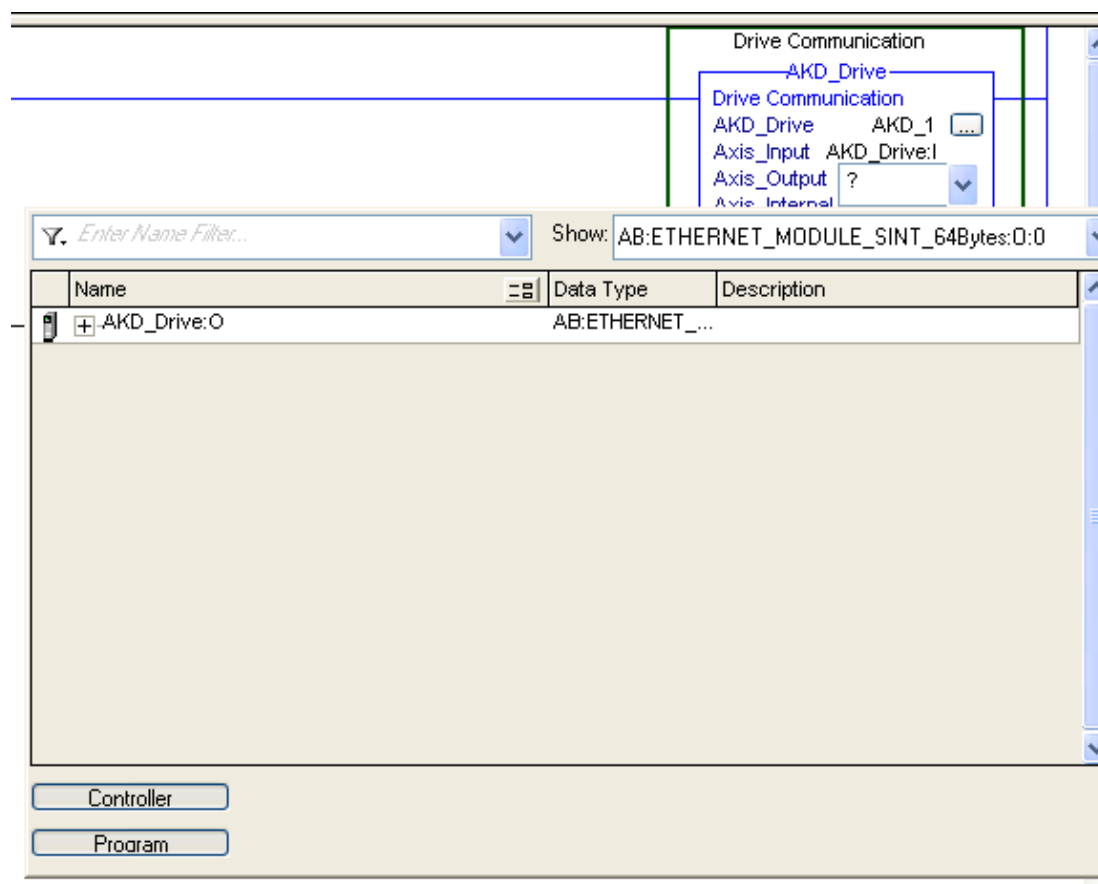

Figure 4-18: Axis Communication Output
- Set the Axis_Input parameter to the input data of the axis for which you are setting up communication (Figure 4-18: Axis Communication Input). Double click the "?". A drop down box will appear. Select the input data tag that corresponds to the "ETHERNET-MODULE" object you created in the I/O Configuration of the project.